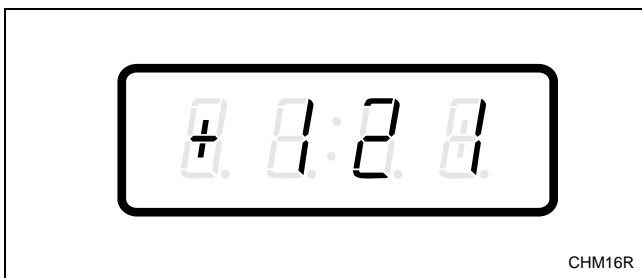

Figure 199
3. Press the DELICATES (+) or the COLD (-) keypad to scroll through the programmable options until “+121” appears in the VFD. Refer to *Figure 199*.